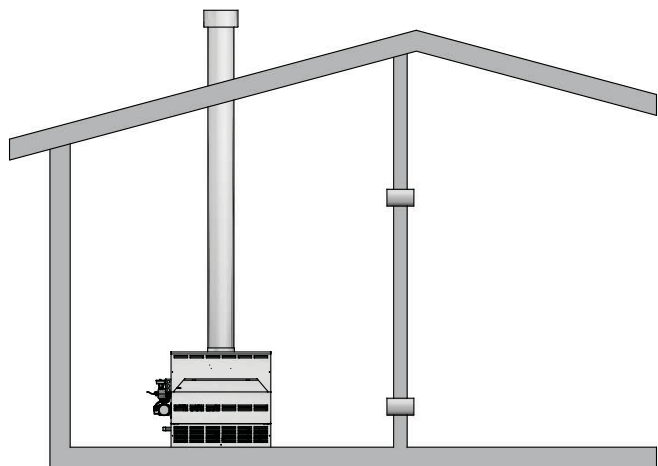

Figure 1-5 *Combustion Air from Interior Space*
3. If air is taken from another interior space that is adequately ventilated, each of the two openings specified above should have a net free area of one square inch for each 1000 Btu/hr (22cm² per kW) of input, but not less than 100 square inches (645cm²) (see FIG. 1-5).